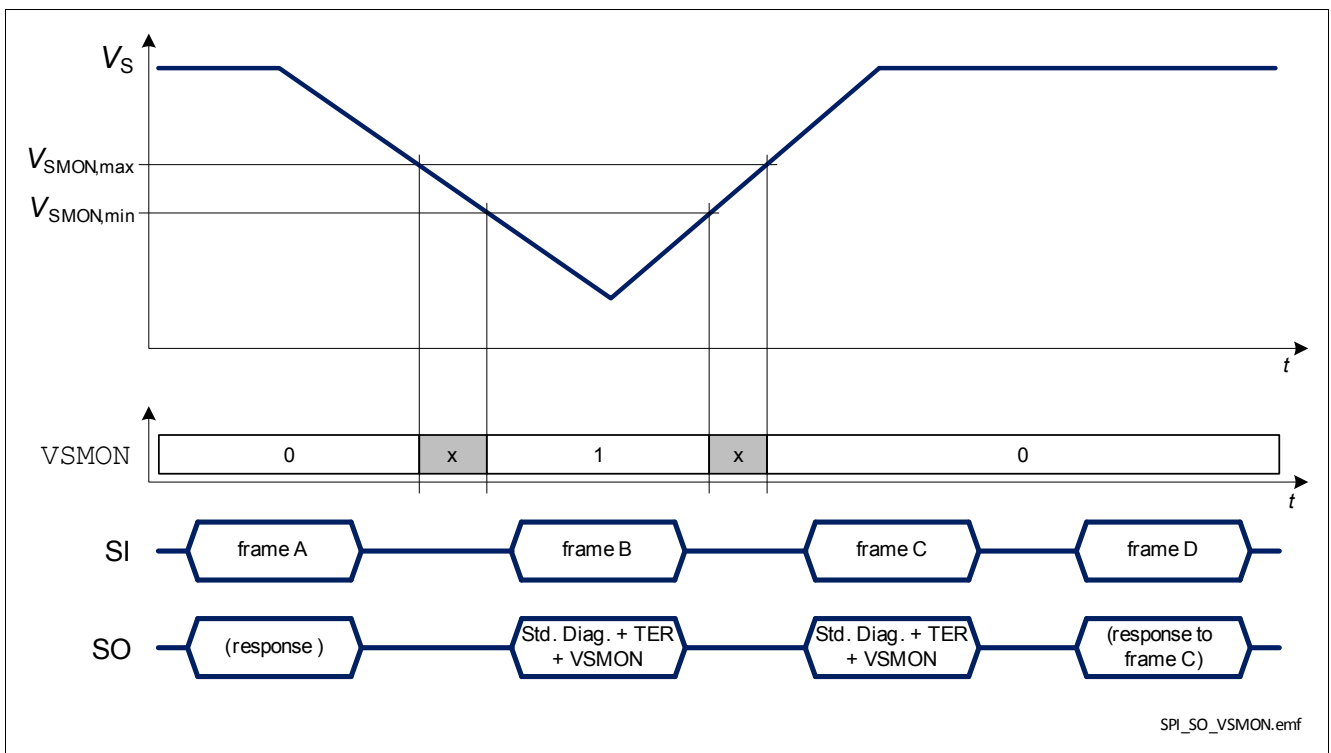

Figure 34 BTS54220-LBF response in case of a negative battery voltage transient
- when $V_S < V_{SMON}$ and $\text{DCR.MUX} \neq 111_B$, as shown in Figure 34